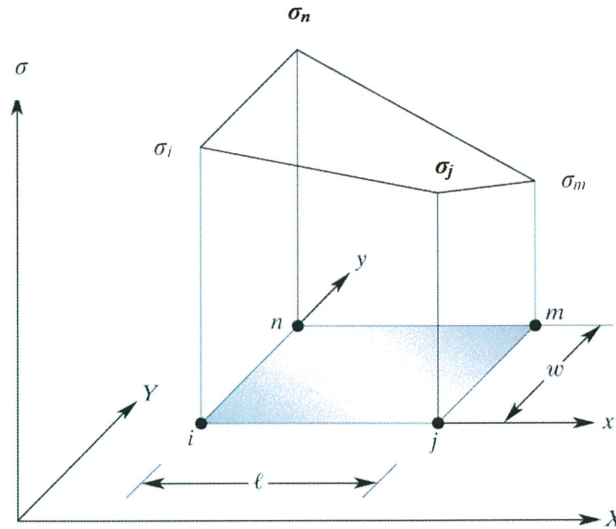

Figure Q3
- Q3** **Figure Q3** shows a small rectangular element of a thin plate. The dimensions and the boundary conditions are such that its stress distribution cannot accurately be approximated by one-dimensional function. The stress varies in both the x and y directions.